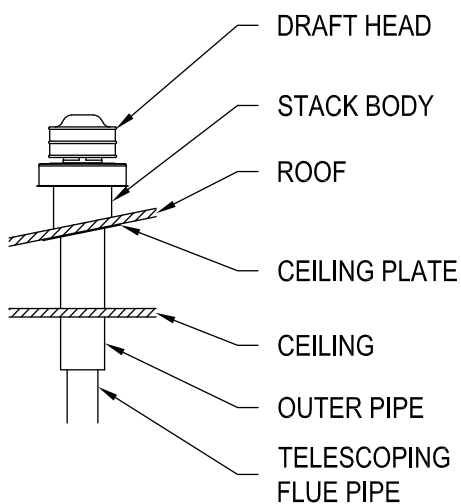

Figure 2
Step 5. Insert the roof jack into the opening in the roof and ceiling and fasten the flashing of the roof jack to the roof with the sheet metal screws provided. Apply additional mastic to complete the weather seal (see Figure 2).
Step 6. If optional ceiling plate is used, place over outer pipe against ceiling and secure with (4) screws (see Figure 2).